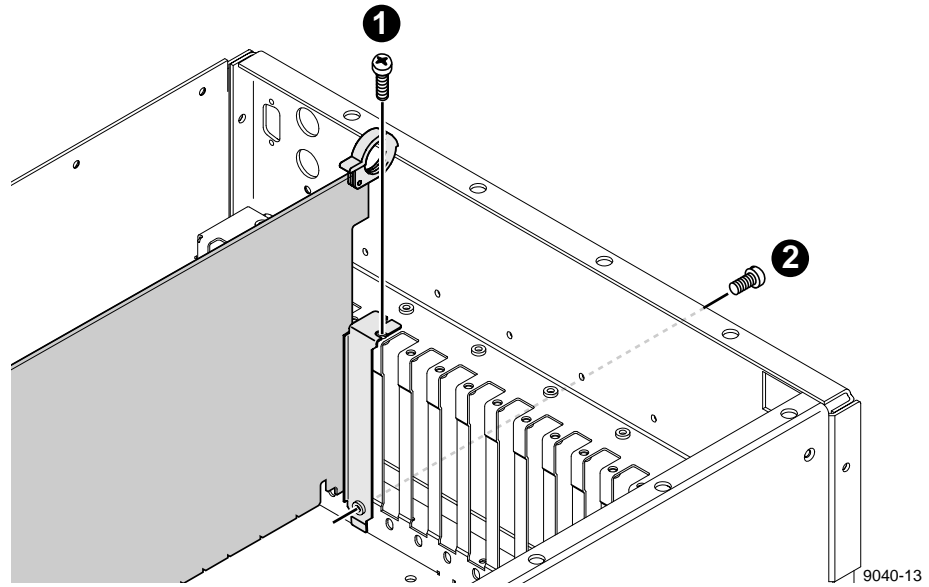

Figure 3. Screw Locations for a Board Bracket
2. Use the Torx tool with the T15 tip to remove the screw from the bracket inside the chassis (❶ in Figure 3) and the screw through the rear panel outside the chassis (❷ in Figure 3).